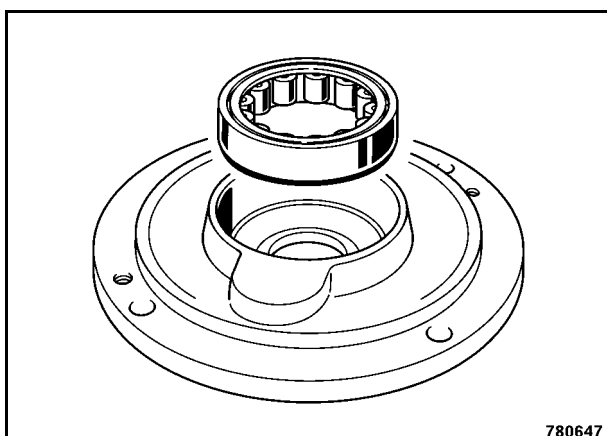

Fig. 14
22. Knock the cylinder roller bearing (Fig. 14) out of the bearing housing.